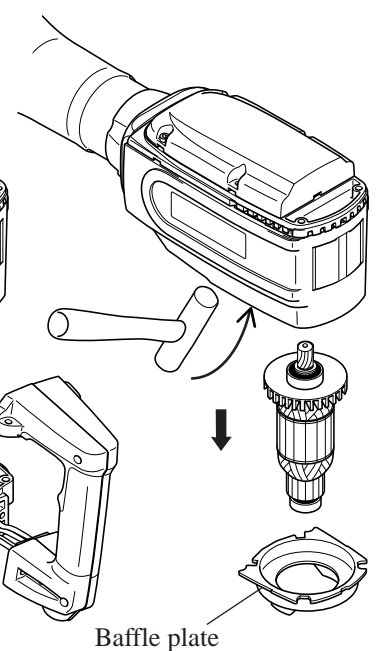

Fig. 6
- (5) Strike crank housing as illustrated in Fig. 6. Then, Armature and baffle plate can be separated from crank housing. See Fig. 6.